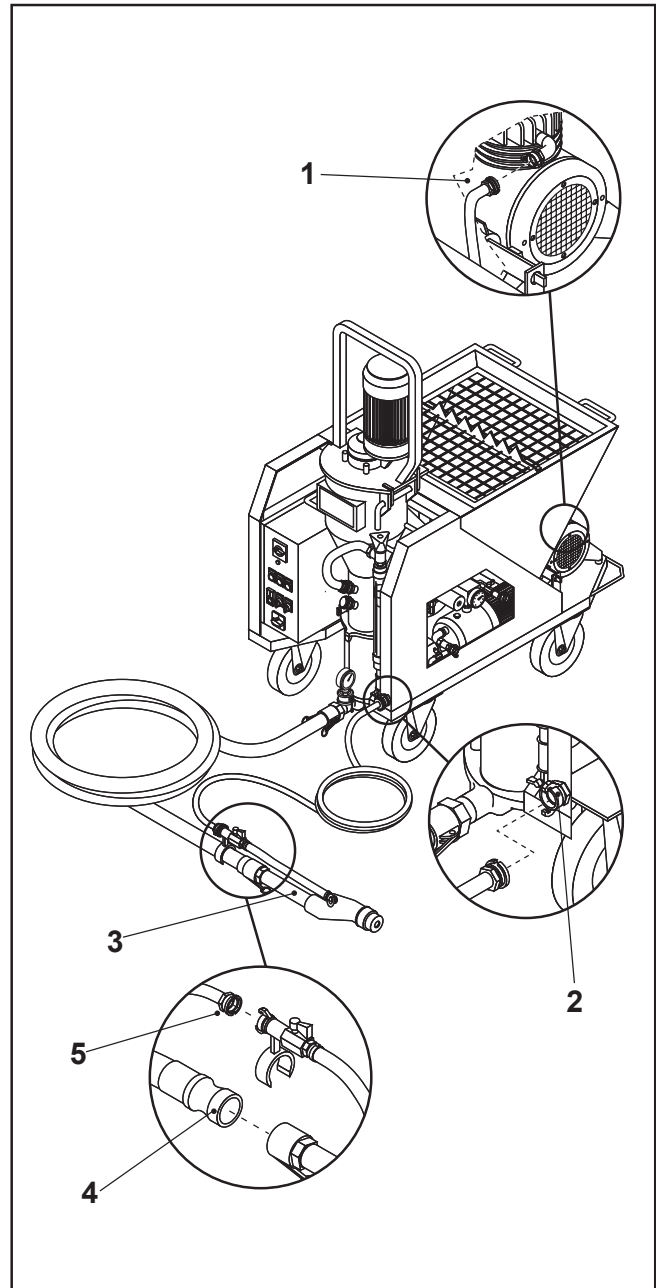

FIG.10
- Connect the compressor's air hose (FIG. 10-REF.1) to the compressor.
- Connect the gun's air hose to the connection (FIG. 10-REF.2).
- Connect the gun (FIG. 10-REF.3) to the ends of the material hose (FIG. 10-REF.4) and air hose (FIG. 10-REF.5).